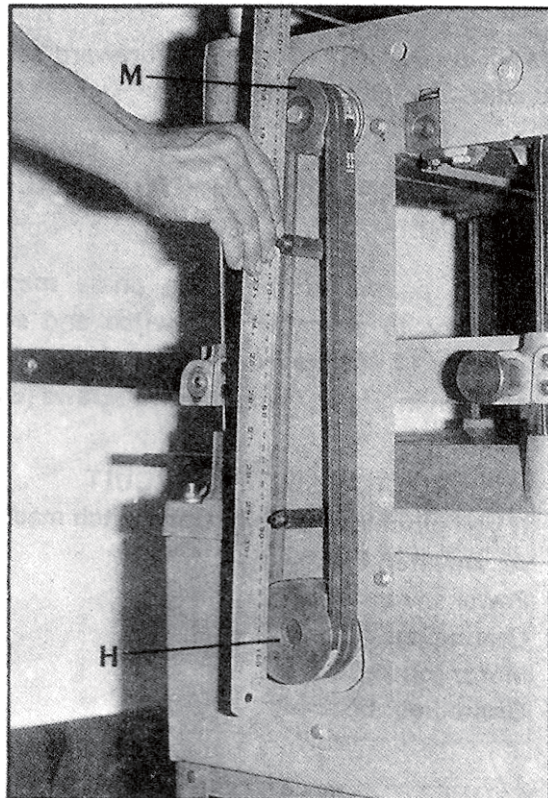

Fig. 14
3. Using a straight edge, align motor pully (H) to cutter-head pulley (M), As shown in Fig. 14 by sliding motor on motor plate, then tighten motor mounting bolts tightly.